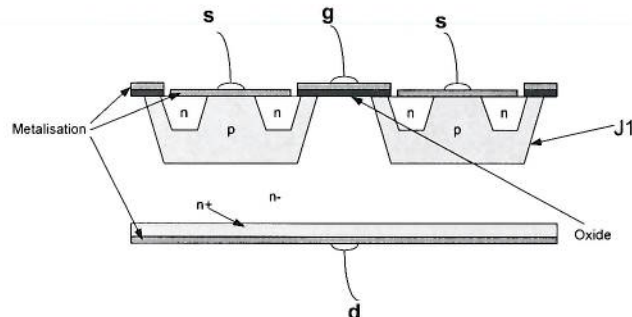
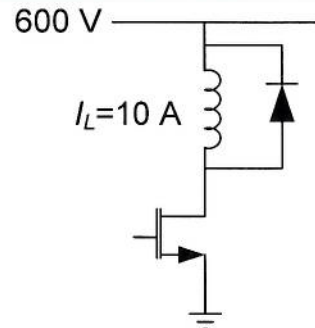

Figure 4.1 Cross section through power MOSFET
Figure 4.2 Diode clamped inductive load circuit
4. Figure Q4.1 shows a cross section through a double-diffused power MOSFET, Figure 4.2 shows a MOSFET switching a diode clamped inductive load.
- With reference to Figure 4.1 and using an equivalent circuit diagram of a power MOSFET, explain why the rate of rise of the drain-source voltage is limited when the device turns off. [5]
- The MOSFET used in the circuit of Figure 4.2 has an intrinsic dv/dt limit at turn-off of 20 V/ns due to the device internal structure. However, in order to comply with EMC requirements, it is necessary to reduce the value of dv/dt to 10 V/ns. Design a suitable turn-off snubber circuit applied to Figure 4.2 in order to limit dv/dt to 10 V/ns. [5]
- A designer is considering changing the MOSFET used in the circuit of Figure 4.2. In the proposed replacement device, the per-cell capacitance of junction J1 (Figure 4.1) is 10 pF and the equivalent resistance of the p diffusion between the source metallisation and J1 is 10 Ω . In order to comply with the maximum dv/dt limit of 10 V/ns set by EMC requirements, does this device require a snubber? [6]